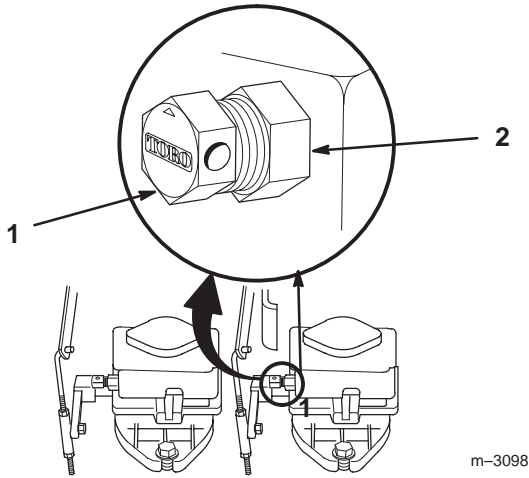

Figure 4
9. Loosen large jam nut several turns (Fig. 4).
10. Gently close by-pass valve (Fig. 4).
11. Open by-pass valve 1/2 turn (Fig. 4).
12. Tighten jam nut to lock the adjustment (Fig. 4).